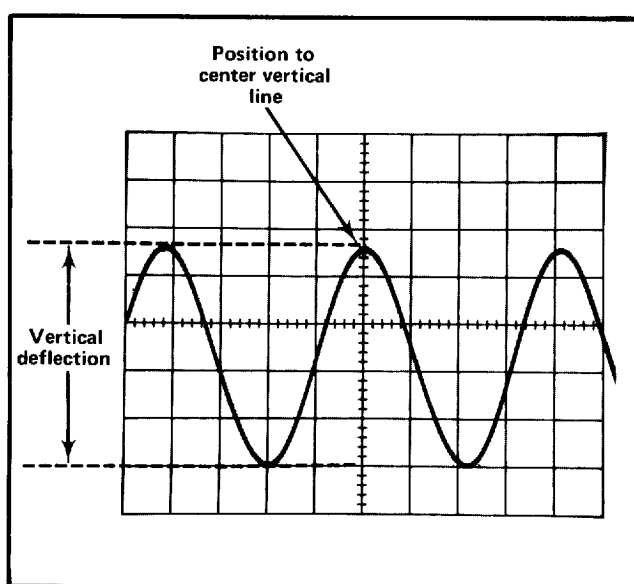

Fig. 2-1. Measuring the peak-to-peak voltage of a waveform.
5. Turn the 7A16A POSITION control so the lower portion of the waveform coincides with one of the graticule lines below the center horizontal line, and the top of the waveform is within the viewing area. With the time base Position control, move the display so one of the upper peaks lies near the center vertical line (see Fig. 2-1).